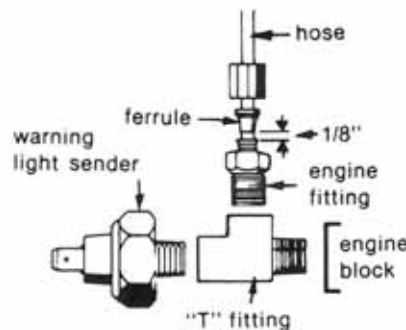

FIGURE 6
- b. If both the gauge and the dash warning light are to work at the same time, a "T" adapter is needed and can be purchased from your local auto parts store. All pipe threads are standard NPT sizes. Connect the hose and the fittings as shown in Figure 6.